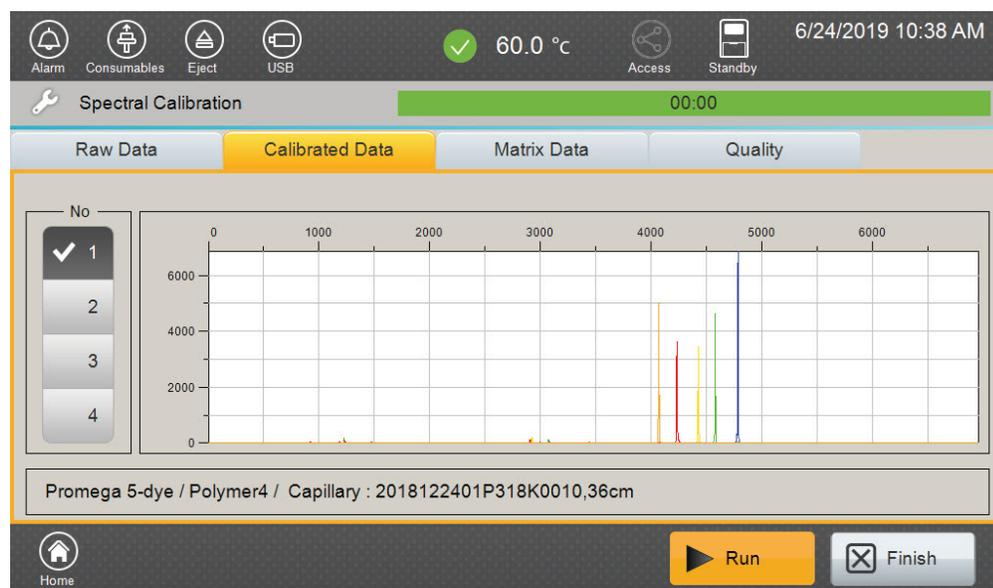

Figure 25. Spectral Calibration 'Calibrated Data Tab' screen.
2. The 'Calibrated Data' tab can be used to view the matrix peaks with both baseline and spectral applied for each capillary (Figure 25).